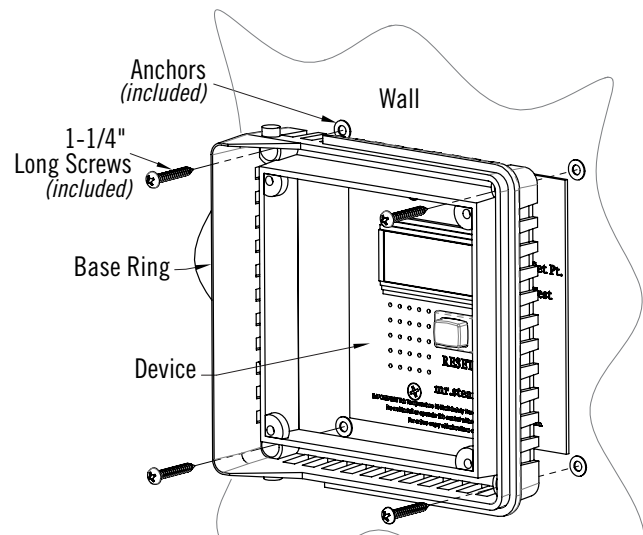

Fig. 3
- Mount Base Ring to wall with 4 anchors (*included*) and 4 x 1-1/4" long screws (*included*), see fig 3.